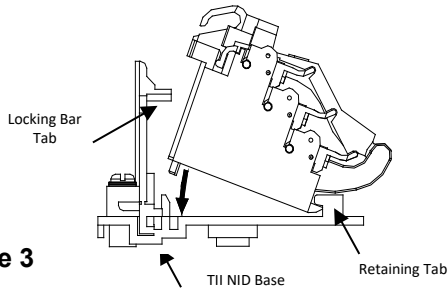

Figure 3
4. Snap the bridging module to the base as shown in Figure 3. For installation into a Tii 3600/3700/9600/5300 Series NID, the adapter is not required.